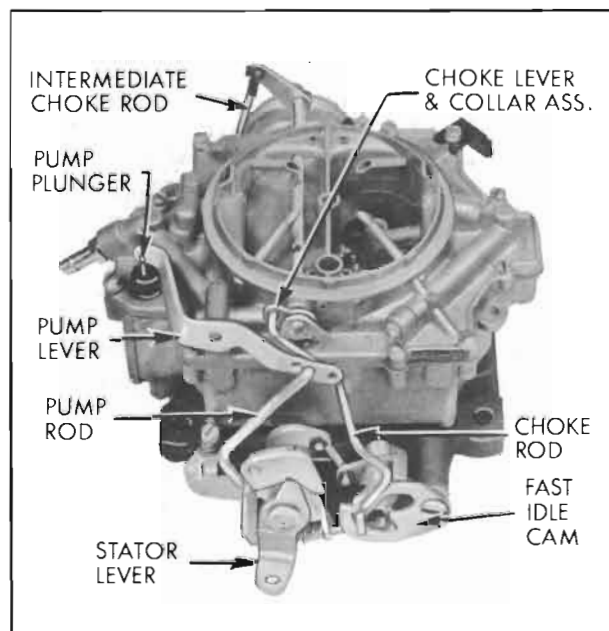

Figure 3-90—Exterior Linkage
1. Remove spring clip from upper end of intermediate choke rod and disengage rod from choke shaft lever. See figure 3-90.
3. Remove choke trip lever and attaching screw. Disengage choke lever and collar assembly from choke shaft and disengage lower end of choke rod from fast idle cam. Then remove choke lever and collar, and choke rod as an assembly. See figure 3-90.